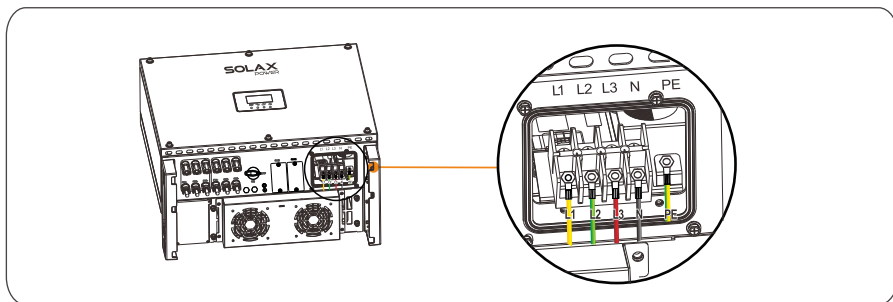

Figure 5.6 Tighten AC wire
Step 3 Loosen the four screws lock on AC OUTPUT door, and connect L1, L2, L3, N and PE through AC OUTPUT terminal cover to the terminal block, use a screw driver to tighten screws to a torque of $3\text{N}\cdot\text{m}$, as shown in Figure 5.6.